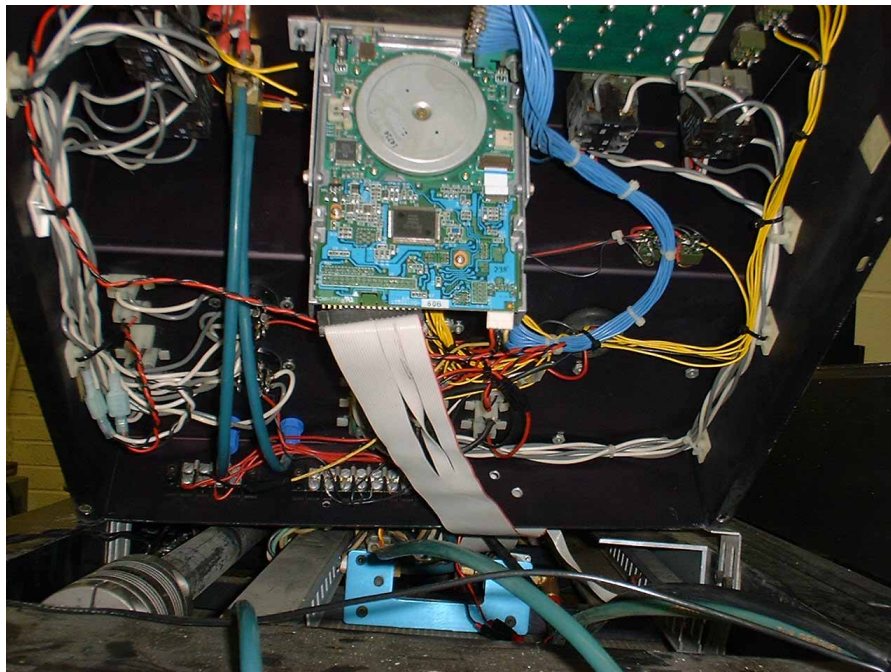

Figure 4: Floppy Drive Ribbon Cable.
- c. Unplug ribbon cable from floppy drive (see figure 4).